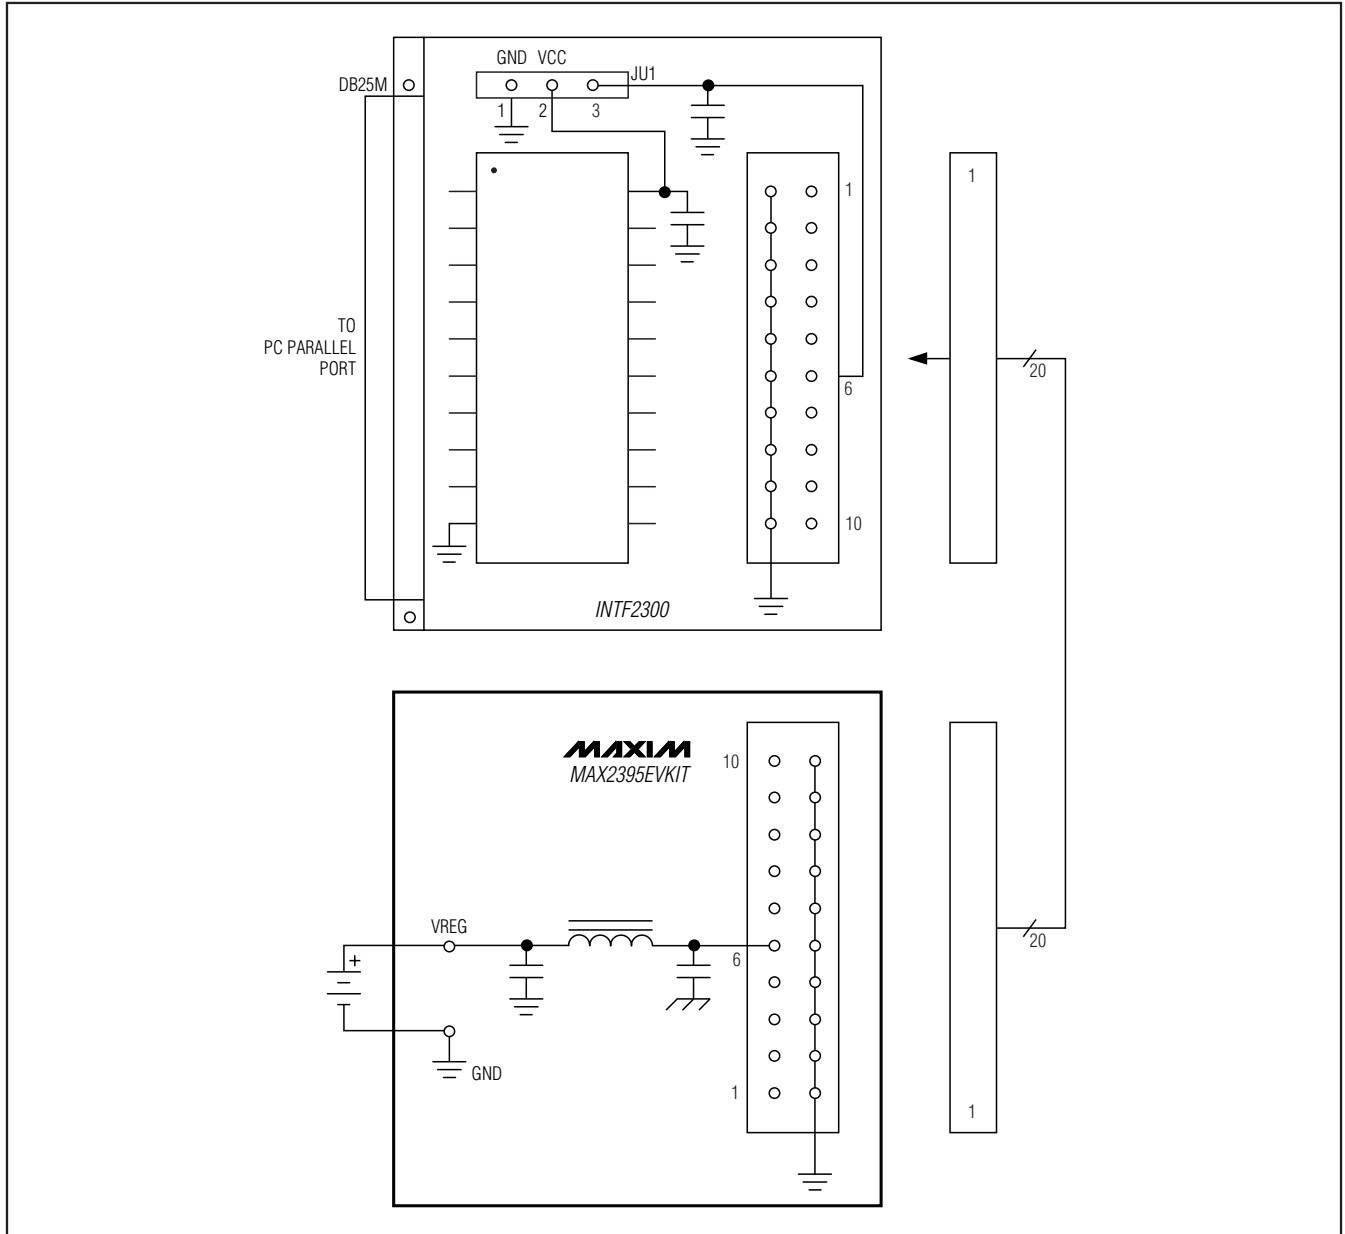

Figure 1. MAX2395 EV Kit to INTF2300 Interface Diagram
- 2) Connect the INTF2300 interface cable to the EV kit and interface board (Figure 1).